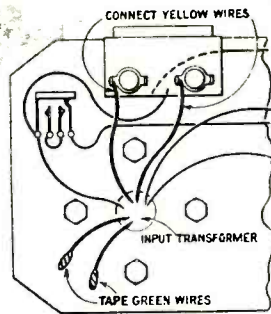

Fig. 2. Transformer connections for two-microphone operation.
(1) Disconnect and tape the two green leads between the microphone receptacle on the voltage amplifier and input transformer.
(2) Connect the two yellow transformer leads (500 ohms) to the microphone receptacle, as shown in Fig. 2.
The actual layout of jacks is slightly different from that shown in Fig. 2. These jacks are in two rows, the reference point jacks (8 in number) are in one row and meter jacks (9 in number) in the other row. This has not been shown in Fig. 2 since it would require a side sketch of the unit.
The unit can be made up in any style desired. If the layout shown in Fig. 2 is followed the size of the pieces needed are as follows: